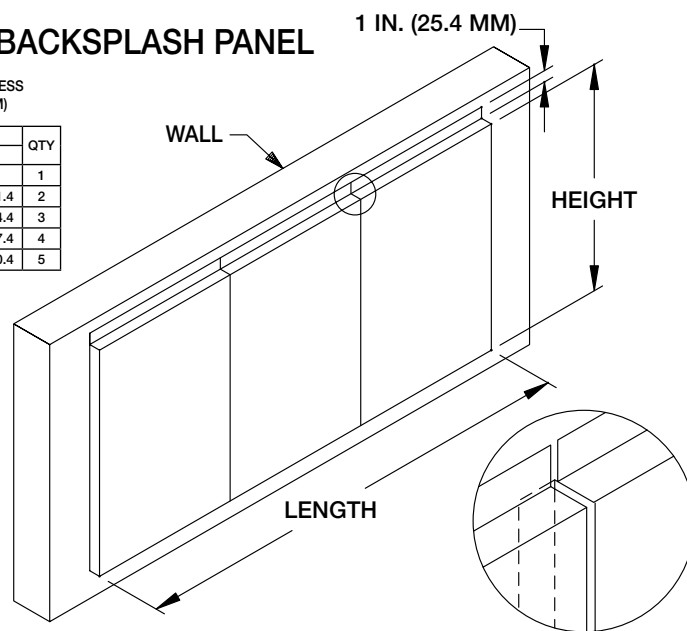

Fig. 19
2. Insulated Panels extend 1 inch from the wall (Fig. 19). Bottom edge of hood must mount tight to top of panel. Check hood mounting height before panel installation.